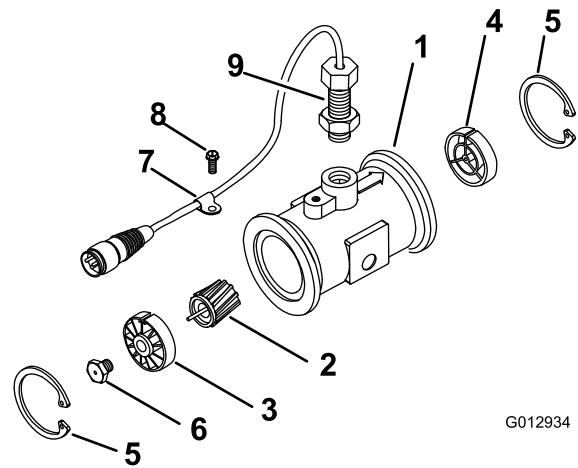

Figure 73
3. Remove the retainer ring on the upstream side (Figure 73).